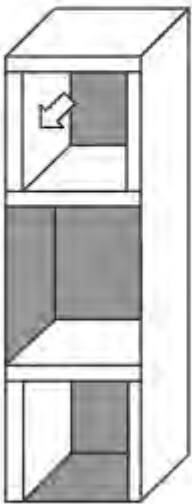

fig. 5
7. Install the TUFECOTE® TBK Faced Foam to the inside of the housing and over the vibration control tape (fig. 5).